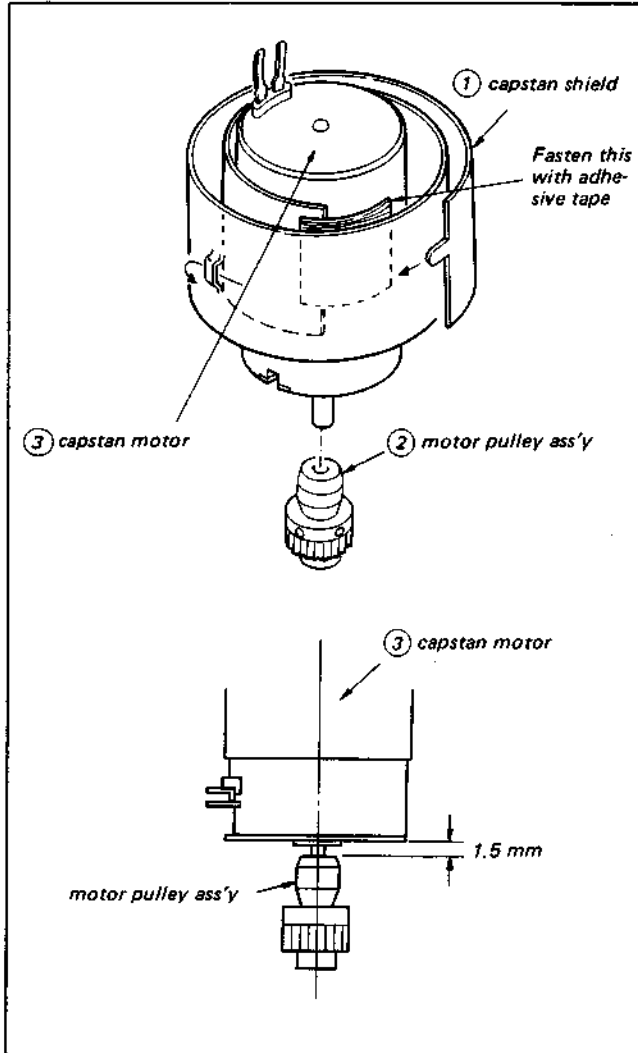

Fig. 3-9. Replacement of DC motor (3)
4. Remove capstan shield ① and motor pulley assembly ② from the defective motor and install them on the replacement motor. (See Fig. 3-9.)